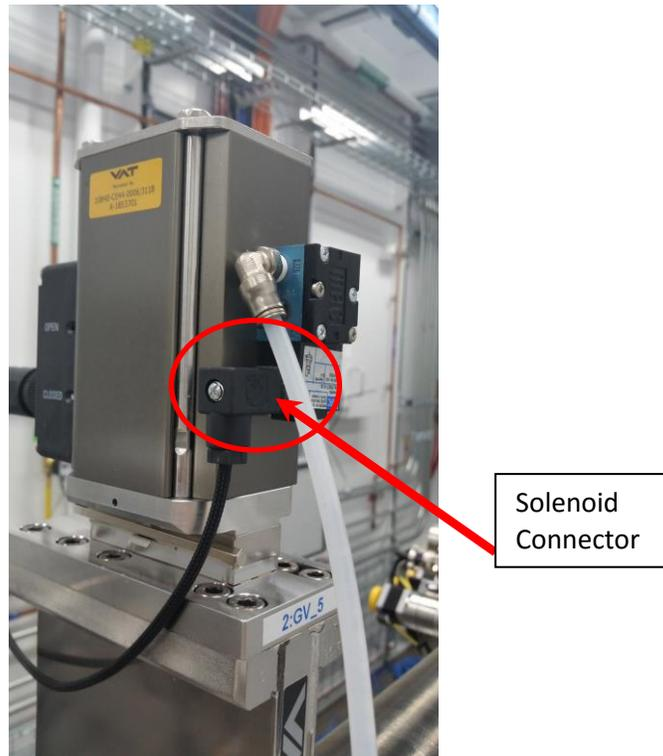

Figure 5-2: Gate Valve 2:GV-5 Solenoid Connector
5.1.5 Disconnect the Solenoid Connector from Gate Valve 2:GV-5, shown in Figure 5-2 below
- 5.2.15 Reconnect the Solenoid Connector from Gate Valve 2:GV-5 (see Figure 5-2) .